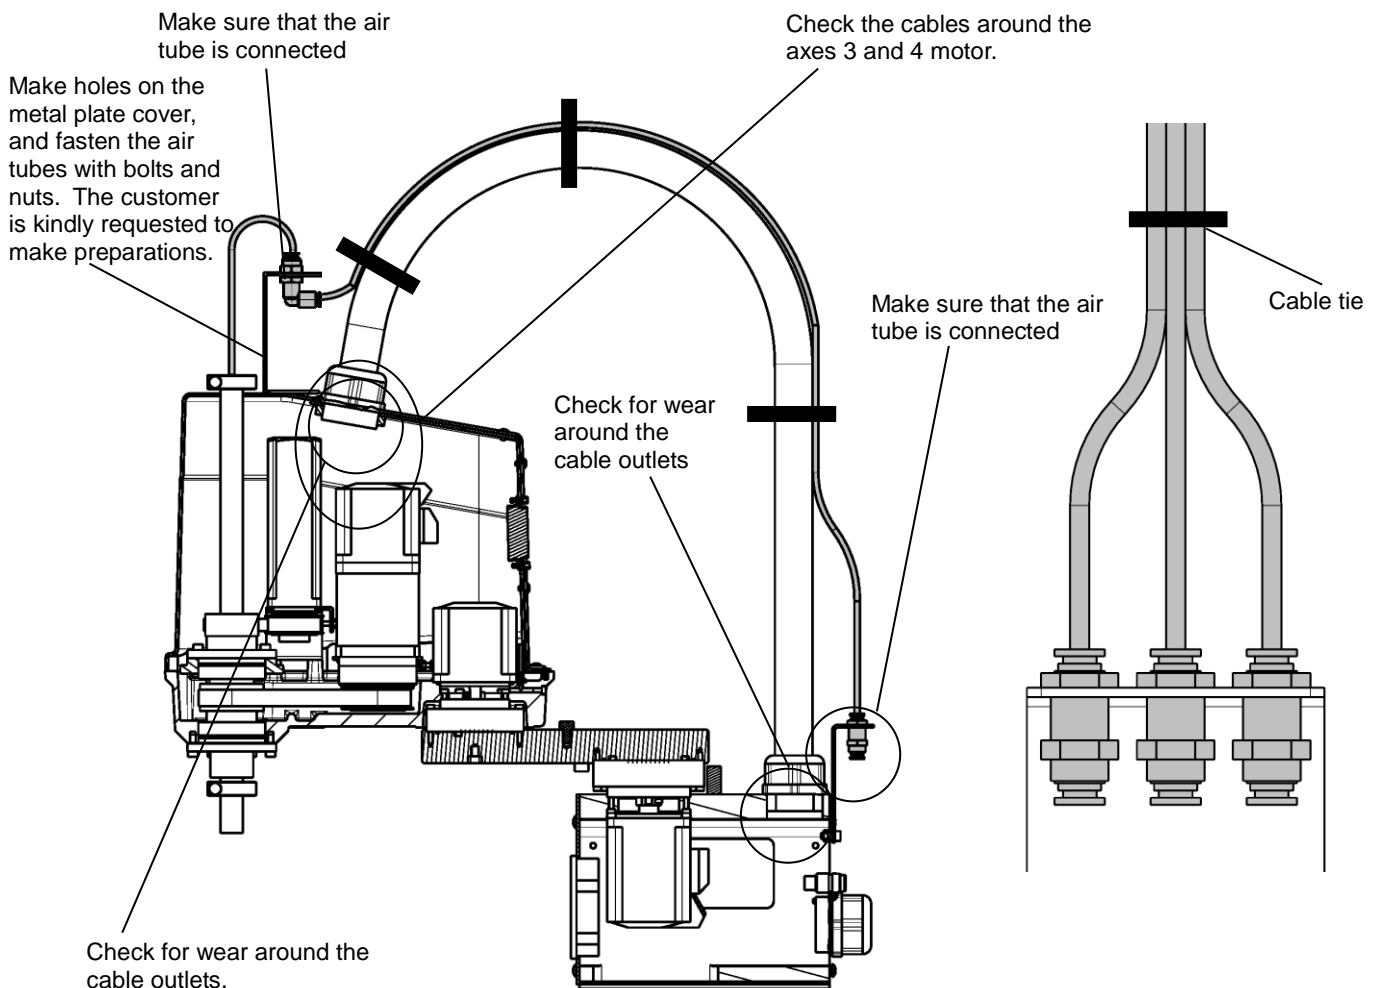

Fig. 2.3 Cable inspection locations (KHL-300, KHL-400)
- Please note that Fig. 2.3 shows a piping example and does not warrant damage to the air tube and its accessories.